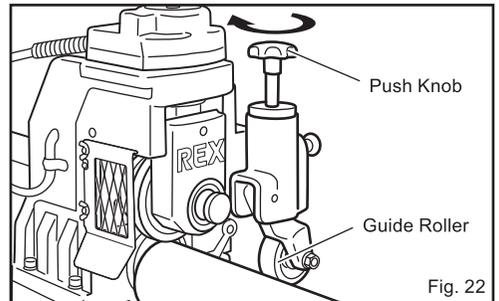

Fig. 22
2. Adjusting the guide roller (Fig. 22)